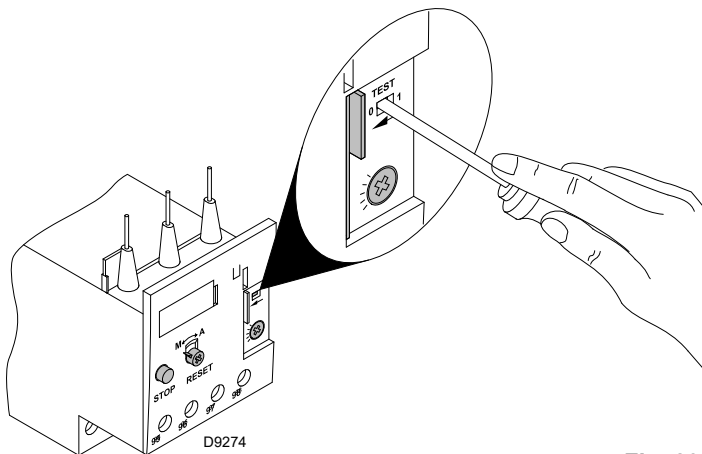

Fig. 23
- To test the thermal relay, insert a screwdriver in the window “TEST” (Fig. 23) and move it in the sense of the arrow (towards right).